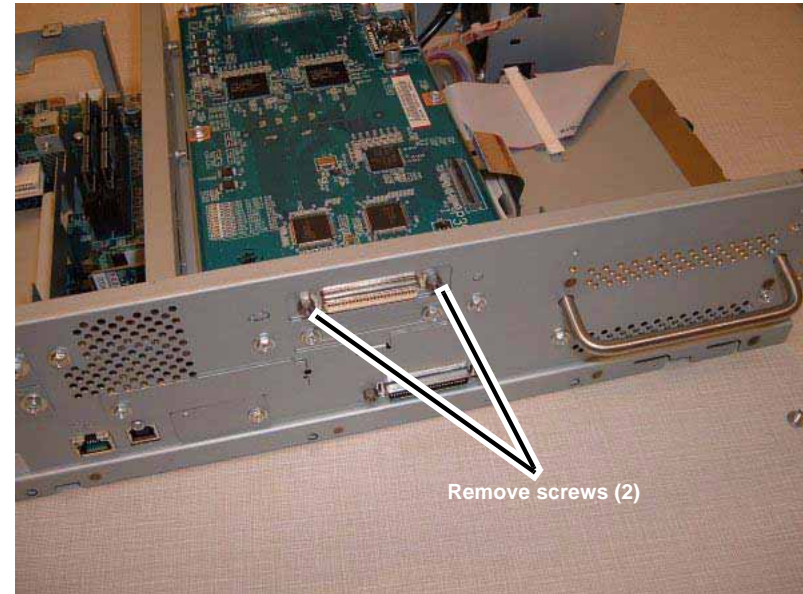

Figure 2 Removing front screws
3. Remove front screws (Figure 2).